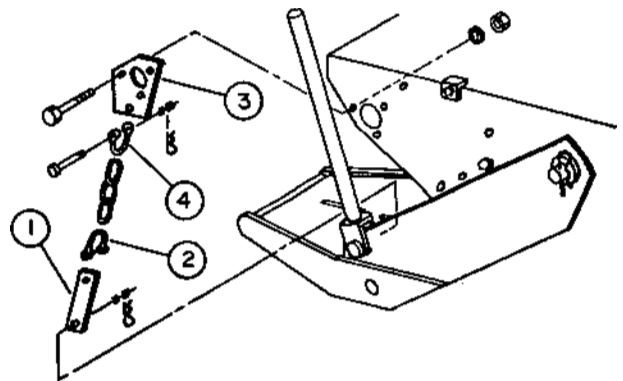

FIGURE 2
c) Attach support plate (fig.2, item 1) on pin of lower left hand lift link. Secure with hairpin.
d) Assemble shackle (fig.2, item 2) with cotter pin to chain and support plate (fig.2, item 1).
e) Attach chain anchor plate (fig.2, item 3) to tractor frame (placing largest hole in line with tractor front mounting hole) using three 5/16" x 1 bolts, lockwashers and nuts.
f) Assemble shackle (fig.2, item 4) with hairpin to chain and anchor plate.